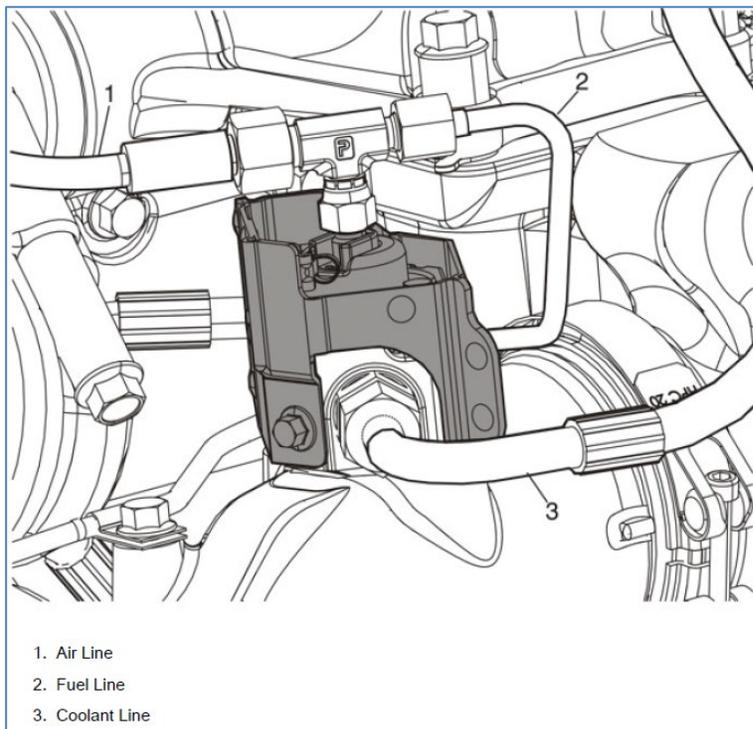
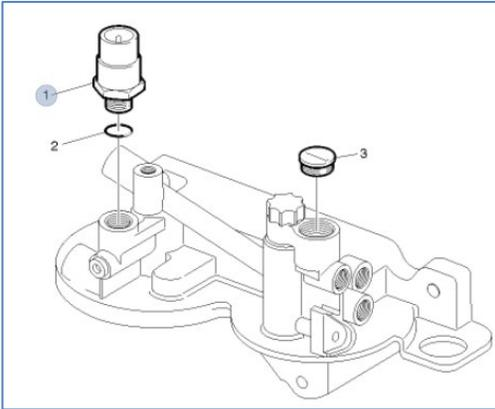
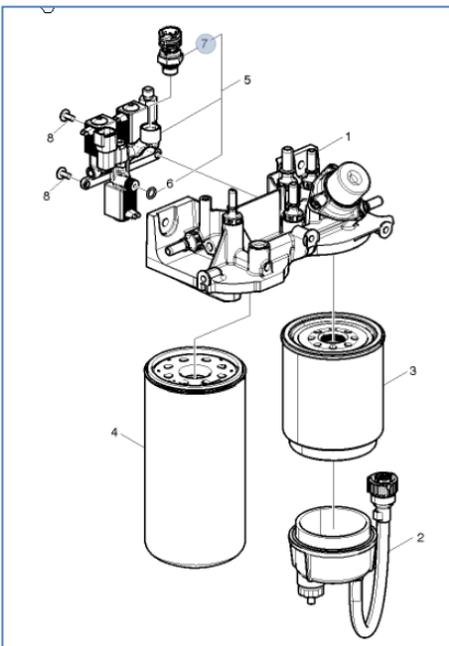
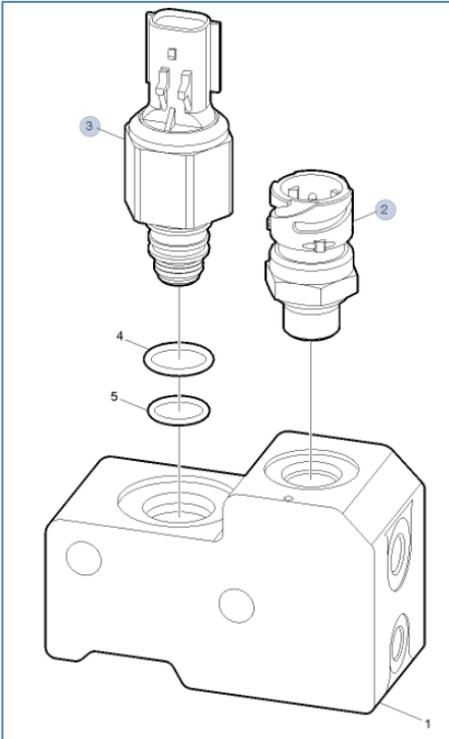

Figure 12
FIGURE 16: FUEL FILTER HOUSING - VOLVO D13 US10 to US14
Figure 17: FUEL FILTER HOUSING - VOLVO D13 US17 AND NEWER. REFER TO IMPACT AS DESIGN VARIES
FIGURE 18
9. **US10** - Replace 7th injector (Figure 12), AHI fuel shut off valve (FIGURE 18), check valve and manifold (FIGURE 13).
11. Replace both engine fuel pressure sensor (FIGURE 16, Figure 17) and AHI fuel pressure sensor (FIGURE 18).